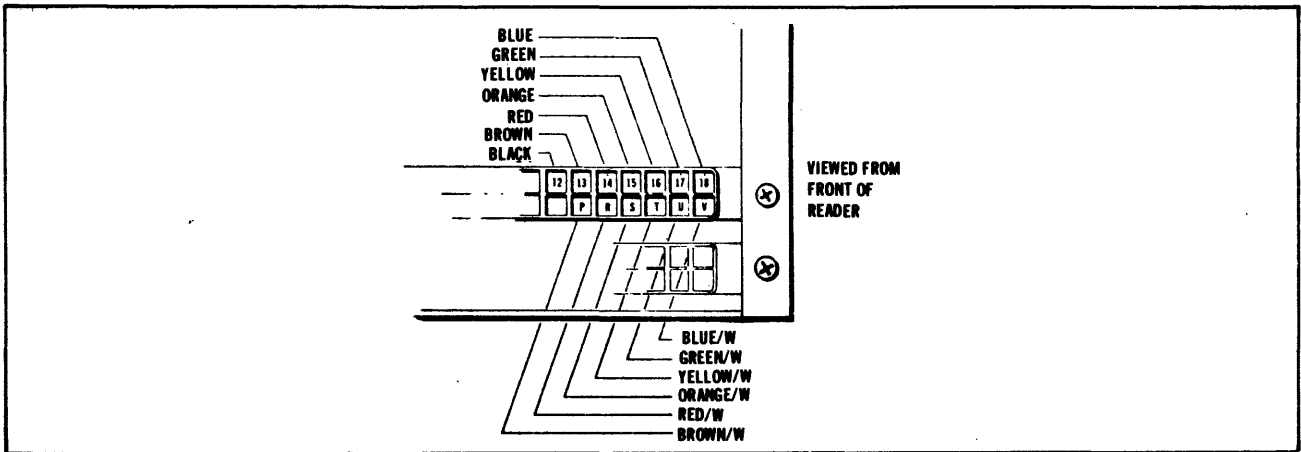

Figure 9-16A. Read Head Wiring Diagram.
- f. Using AMP Tool 465195-2, remove read head wires from connector. (Figure 9-16A)